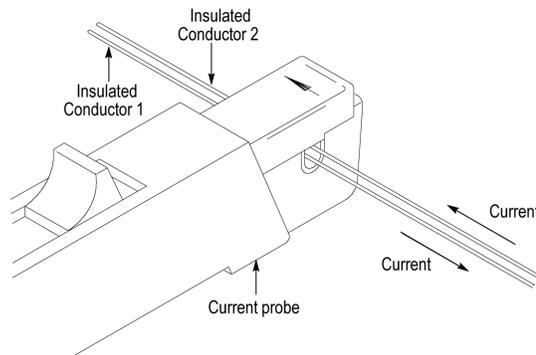

**Figure 4: Polarity of Current Flow**
3. Close and lock the probe jaw over the conductor. Conventional current flows from positive to negative. For the correct polarity reading, connect the probe so that the current flow, from positive to negative, is aligned with the arrow on the probe jaw. (See Figure 4 on page 8.)